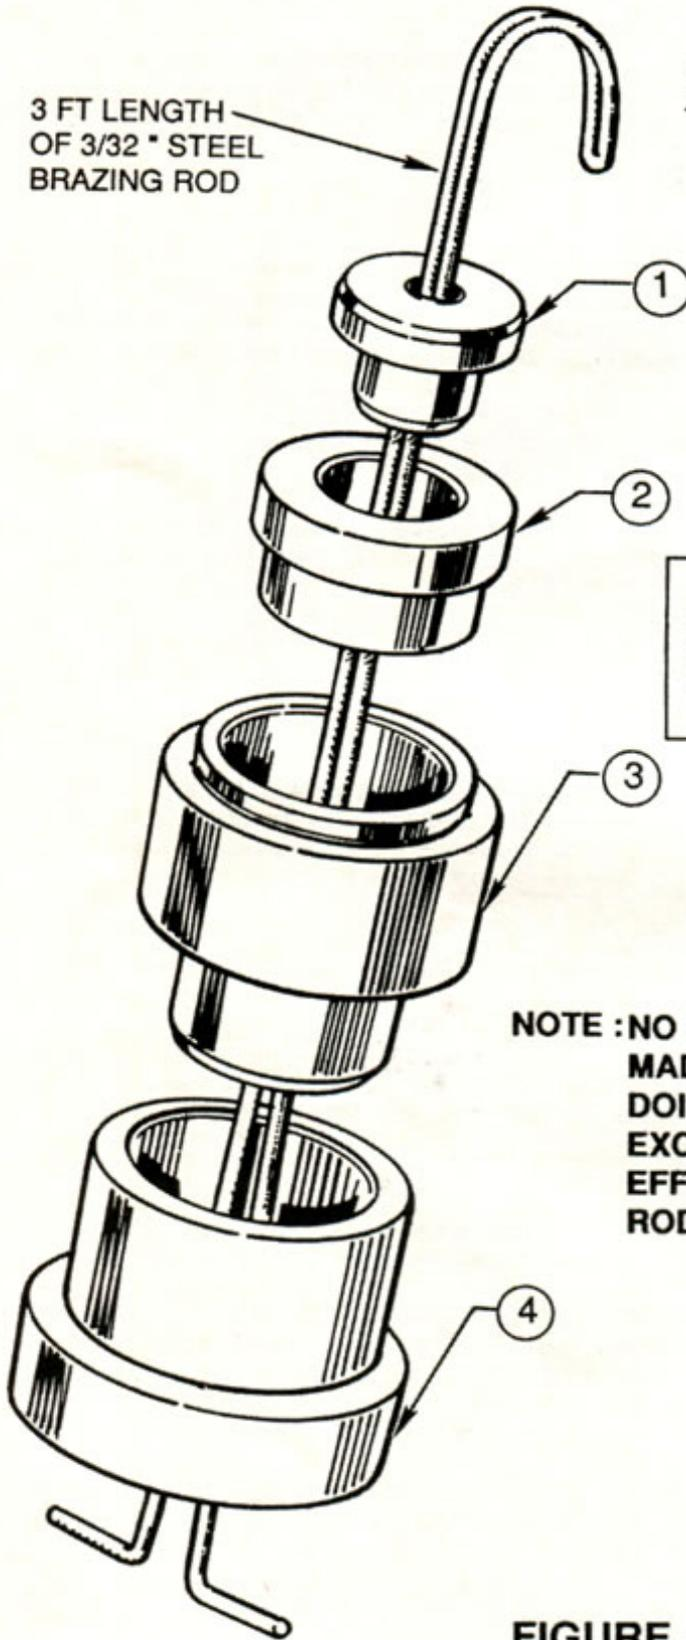

FIGURE 1
1. Fabricate/Assemble weight from materials indicated and as illustrated in Figure 1.